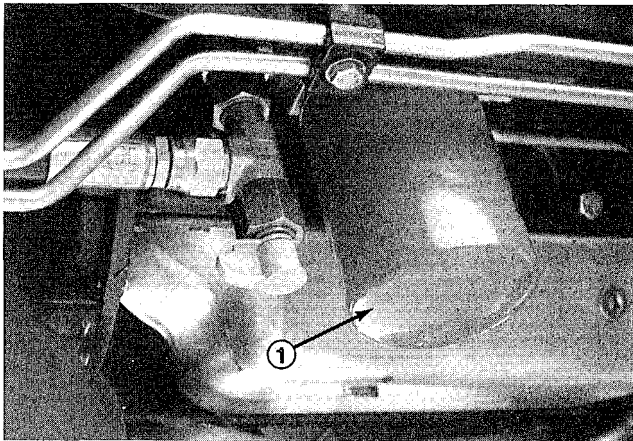

Figure 43
REPLACING HYDRAULIC FILTER (Fig. 43)
2. Clean area around filter mounting area (Fig. 43). Place drain pan under filter and remove filter.